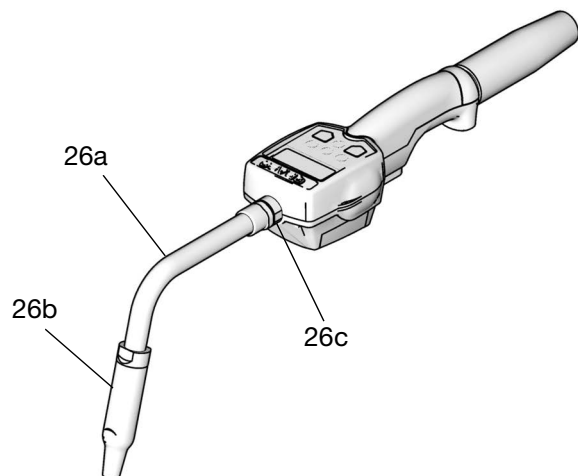

FIG. 6
1. Thread the sealing nut (26c) into the extension (26a) (FIG. 6).
2. Thread extension into meter outlet at least three full turns to tighten securely (FIG. 6).